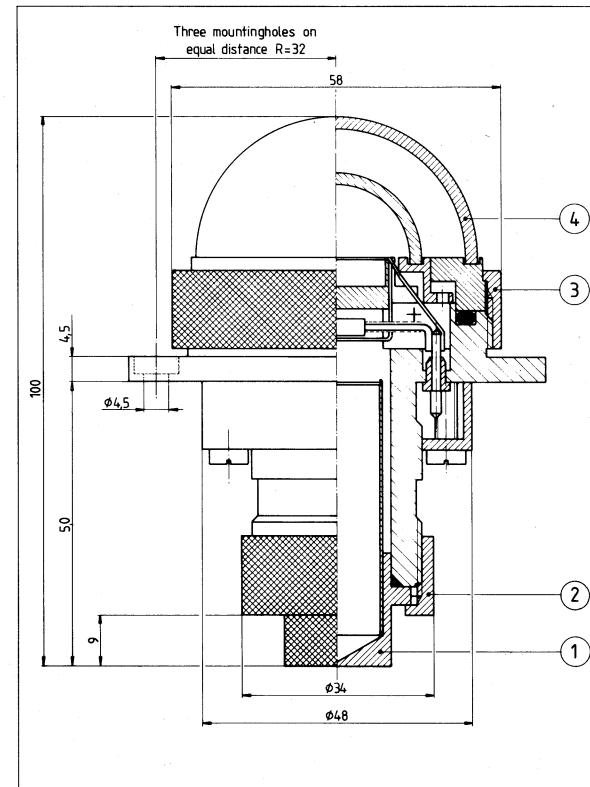

Fig. 1.
This drying cartridge (1) can be withdrawn from the mounting after removal of the retaining screw-ring (2) as indicated in fig. 1. Upon pulling the two parts of the cartridge apart, the perforated tube can be filled with new blue silicagel or other suitable drying agent e.g. every six months.